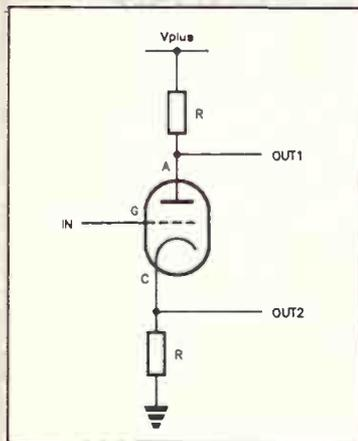

Figure 9.1. Single valve phase splitter.
To keep costs down, the commonest valve phase splitter uses a single triode; it is a derivative of the valve current amplifier. The dc coupled circuit is shown in Figure 9.1. The voltage at the grid has to be about $V_{plus}/3$. In the ac coupled version shown in Figure 7.2 this voltage is set by the ratio of R to R_c and the characteristics of the valve. The output impedance at the anode (A) is R_l but that